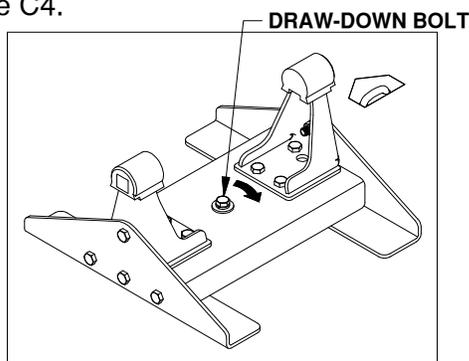

Figure C4. View of Companion base.
- Tighten the 1/2" x 3-1/2" draw-down bolt to **60 ft-lbs**, see Figure C4.